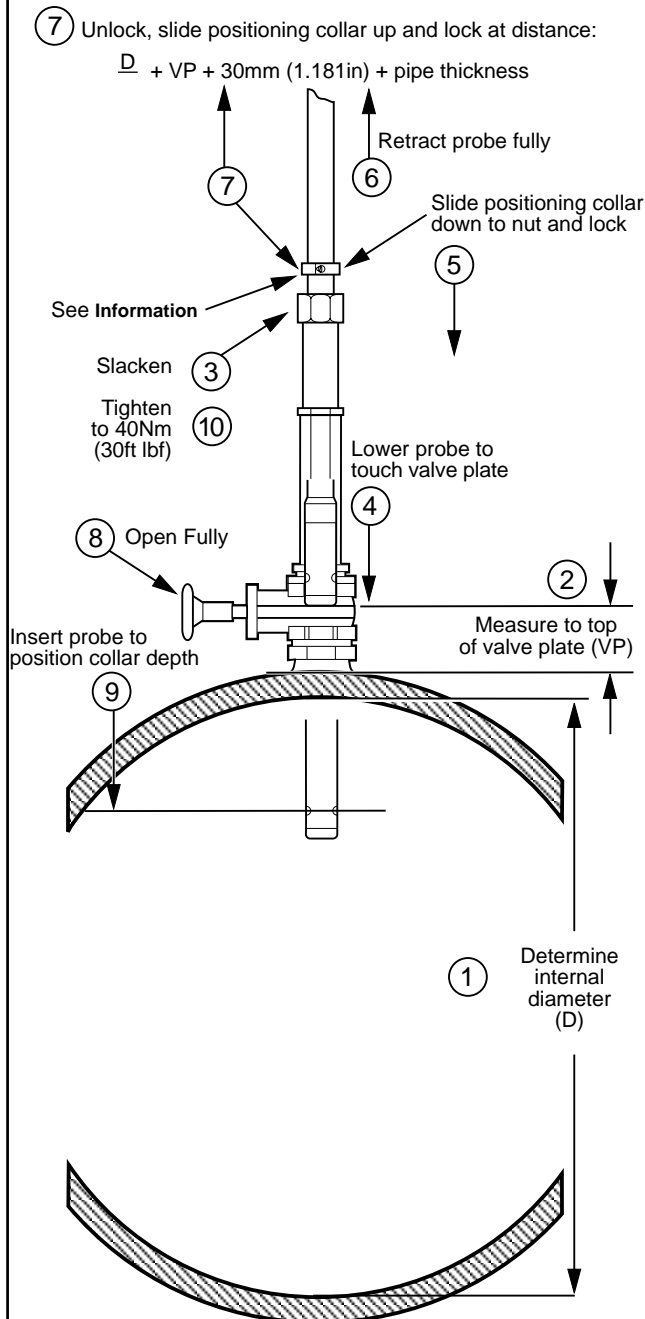

Fig. 3.14 Setting the Insertion Depth – Mean Axial Velocity Method
3.5.3 Mean Axial Velocity Method – Fig. 3.14